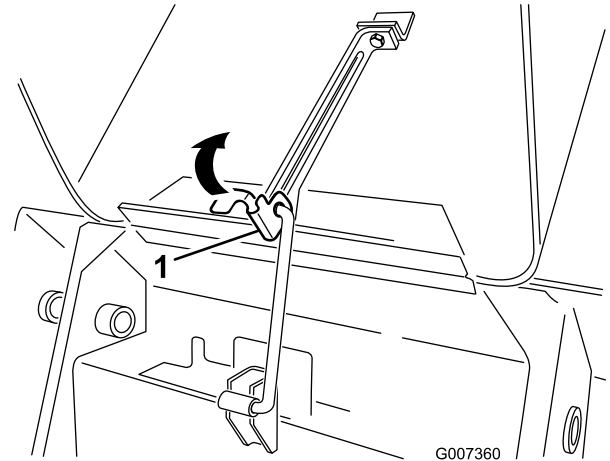

Figure 28
1. Lift up on the tab securing the prop-rod (Figure 28)